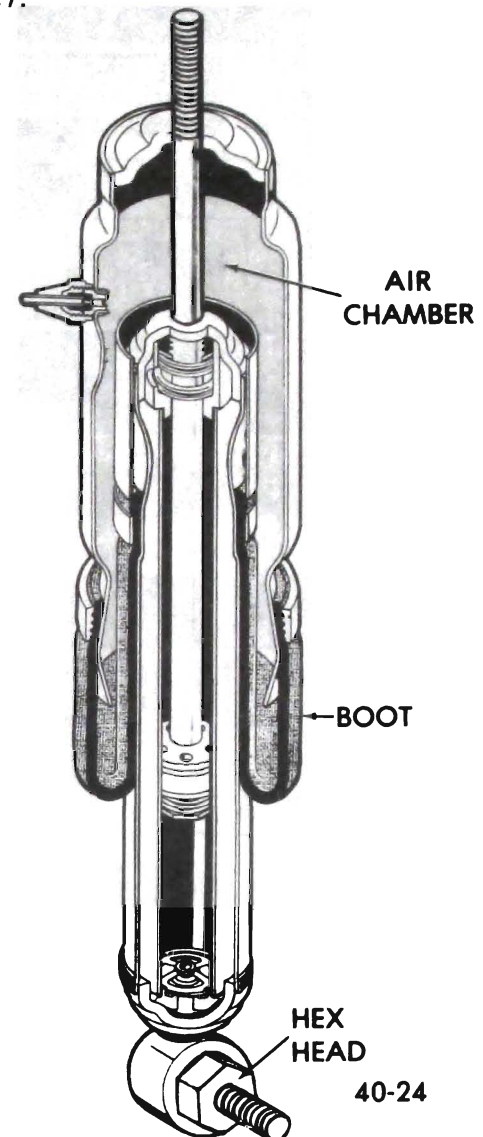

Figure 40-27 - Superlift Shock Absorber - Sectional View
e. The Superlift shock absorber is essentially a conventional hydraulic unit with a pliable nylon reinforced neoprene boot acting as an air chamber. See Figure 40-27.